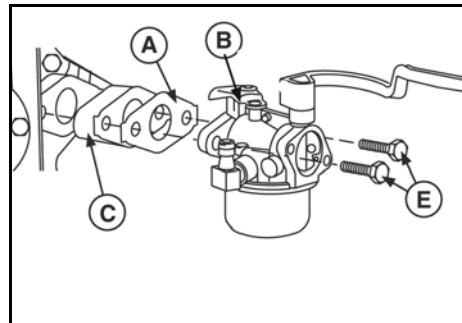

Figure 26
3. Remove two carburetor mounting screws or nuts (E, Figure 26).
4. Pull carburetor away from the adapter assembly (C) and rotate it to disengage